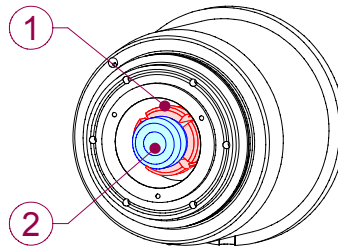

Figure 16
- spread the grease in the gap between the segments of the collet and the ejector (Figure 16), using a clean, thin, plastic tool;